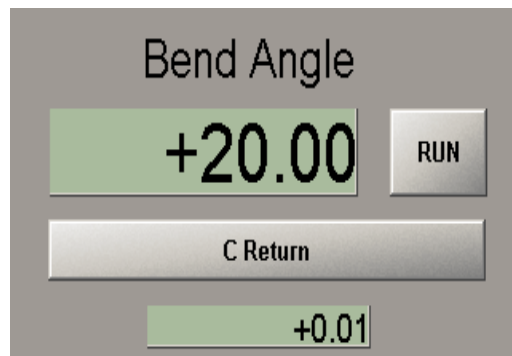

Figure 34 Bend Angle
4. Press **Run** (Figure 34). When the bend is completed, press **C Return**. The Y axis will move forward to clear the clamp insert and the bend arm will return to zero.